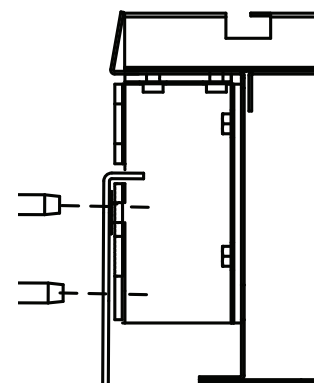

Figure 9-2
- B. Straighten plate until flange connects with bracket install screws as shown in Fig. 9-2.